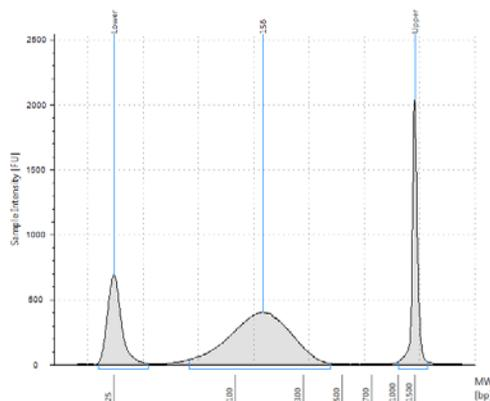

Figure 4 Analysis of sheared DNA using the 2200 TapeStation.
- 5 Verify that the electropherogram shows an average DNA fragment size of 150 to 200 bp. A sample electropherogram is shown in Figure 4.